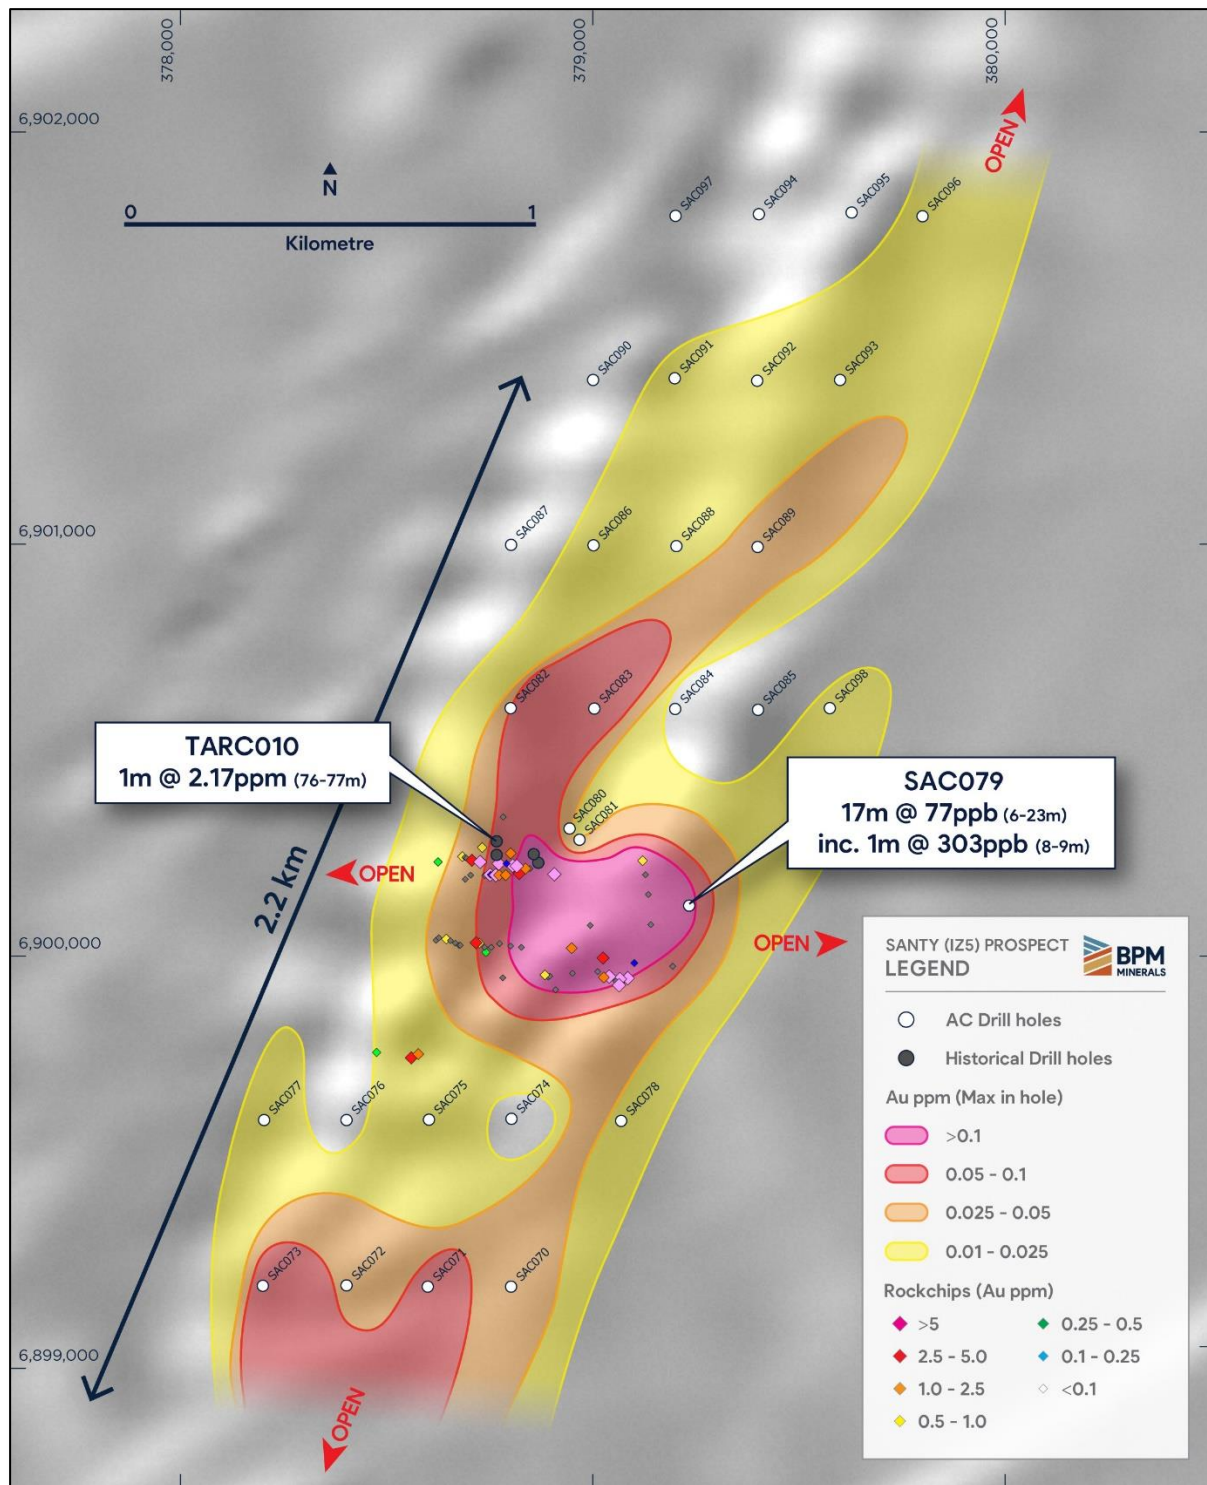

Figure 1 - Santy Gold Project with newly identified 2.2km-long gold trend which remains open in all directions.
- All assays received from first pass Aircore (AC) drilling completed at the Santy Gold Project, located in Western Australia's Murchison Region.
- Shallow, wide-spaced (400m x 200m) grid successfully outlined a 2.2km-long gold regolith anomaly (Fig. 1).